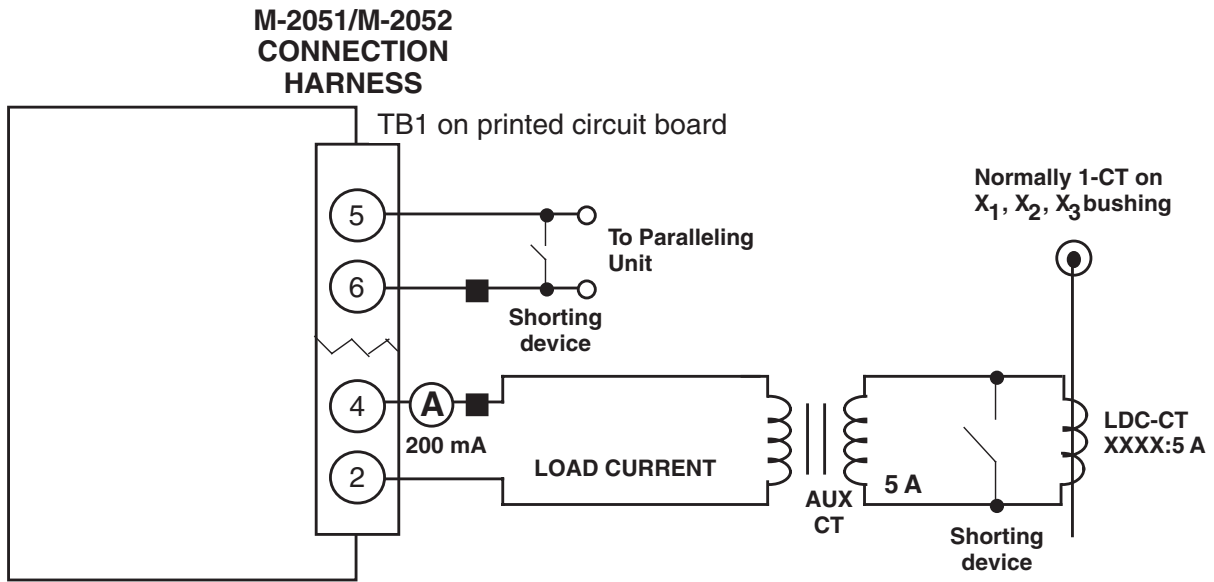

Figure 9 Setup for Current Checkout Procedure
3. As shown in Figure 9, Setup for Current Checkout Procedure, temporarily place a shorting device across the LDC-CT secondary to short the line drop compensator circuit, and place another shorting device across TB1-5 and TB1-6 to short the circulating current paralleling input, for the load current check. Insert an ammeter between the polarity input and TB1-4. Open the load current shorting device and with a known load on the transformer or regulator, measure the current in the load current circuit to ensure that this current is correct for 0.2 A full load.